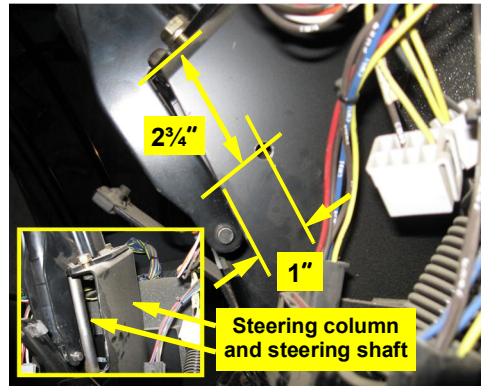

Figure 1c: Location of drilled hole in steering column (see inset for steering shaft location)
- c. Drill a 3/8" hole in the steel steering column 2 3/4" from the top and 1" from the edge (Figure 1c with inset).